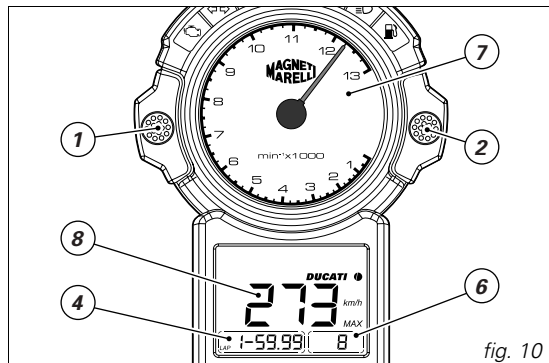
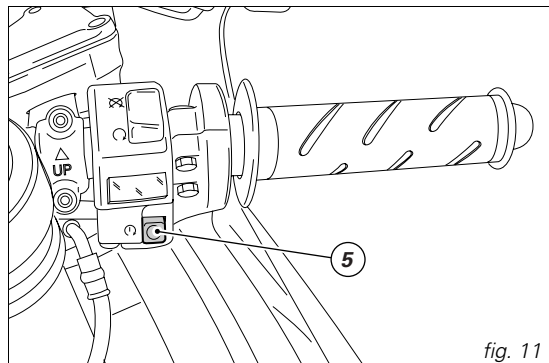

fig. 10
fig. 11
This function lets you record the lap time and indicates the highest speed and engine rpm reached in that lap. Select the LAP display (4, fig. 10). While the vehicle is moving, press button (5, fig. 11) to start the on-board chronometer. If button (5) is pressed again, the chronometer stops and at the same time starts the on-board chronometer for a 2nd count. You can store up to 19 laps; if more laps are stored after this, the first laps are erased (it stores only the last 19 laps).
After lap time recording is stopped, 19 stored lap times can be viewed on the LCD. After switching off the vehicle, press button (2, fig. 10) and turn the key switch from OFF to ON to select the function.
- lap number (6) to which the information relates;
- highest engine speed (7, fig. 10) recorded on the selected lap;
- recorded time to complete the selected lap (4, fig. 10);
- highest road speed (8, fig. 10) recorded on the selected lap.
To reset the recorded lap times, hold down the (2, fig. 10) button for over 5 seconds.
- 1) if the code is recognized, the CODE light (12, fig. 5) on the instrument panel flashes briefly. This means that the protection system has recognized the key code and has released the engine lock. When you press the START (5, fig. 11) button, the engine starts up.